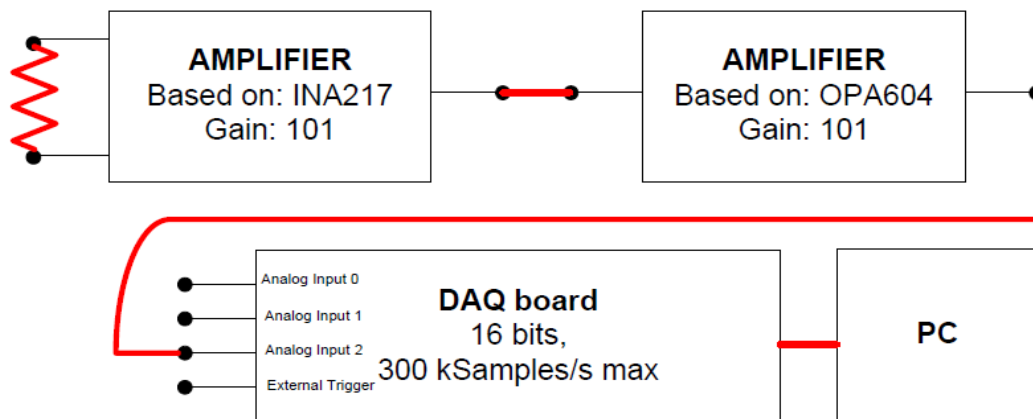

Figure 8 : Block diagram to show the required connections for a noise measurement with the amplifiers.
We will study resistors as a source of intrinsic noise. That is an important issue since the corresponding thermal noise significantly limits the sensitivity (i.e. the minimum detectable signal variation) of any sensor with resistive elements (such as several magnetic sensors, inductive sensors, strain sensors, chemical sensors, light sensors, temperature sensors, etc. etc.). In this framework, the system adopted to measure the noise coming from different resistors is depicted in Figure 8 and the corresponding noise sources are the amplification chain and the analog-to-digital converter (See the appendix for circuit details).
Introducing an amplification chain is essential to make the thermal noise voltage produced by the resistors measurable. Accordingly, we are going to connect two amplification stages between the resistor and the PC (Figure 8). The two amplifiers introduce additional noise, and the corresponding contributions have to be taken into account (and measured).
1. Connect the resistance as shown in Figure 8.